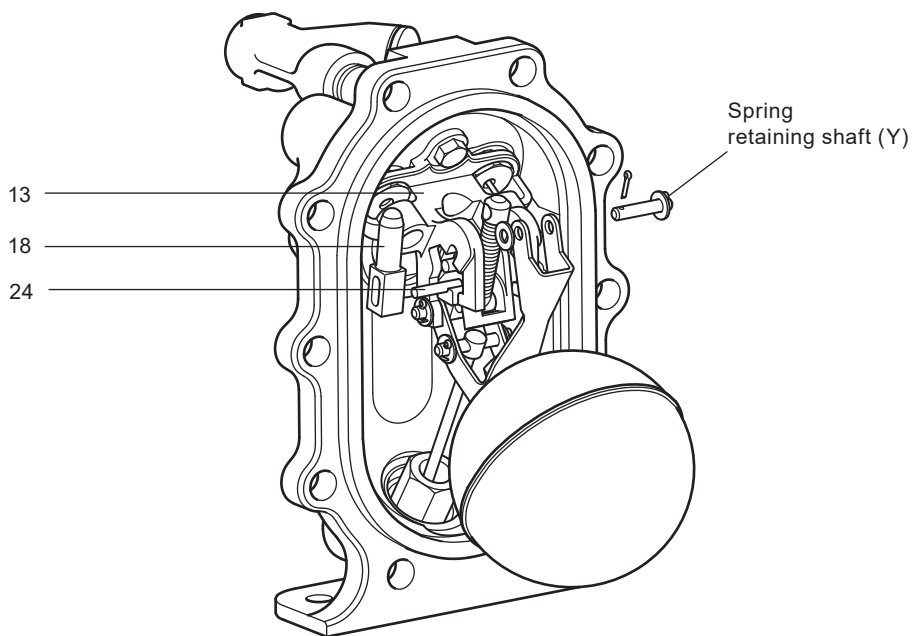

Fig. 18
4. Remove the split pin and washer, from the spring retaining shaft (Y). (See Fig. 18).
6. Draw the actuator arm downwards within its slots until it comes free. It may be necessary to slide the exhaust valve (item 18) backwards against its internal spring to free it from the pump bracket guide (item 13).
7. Gently remove the exhaust valve from the spigot of the actuator arm (item 24, shown in Fig. 18) being careful not to damage or lose the small exhaust valve compression spring.